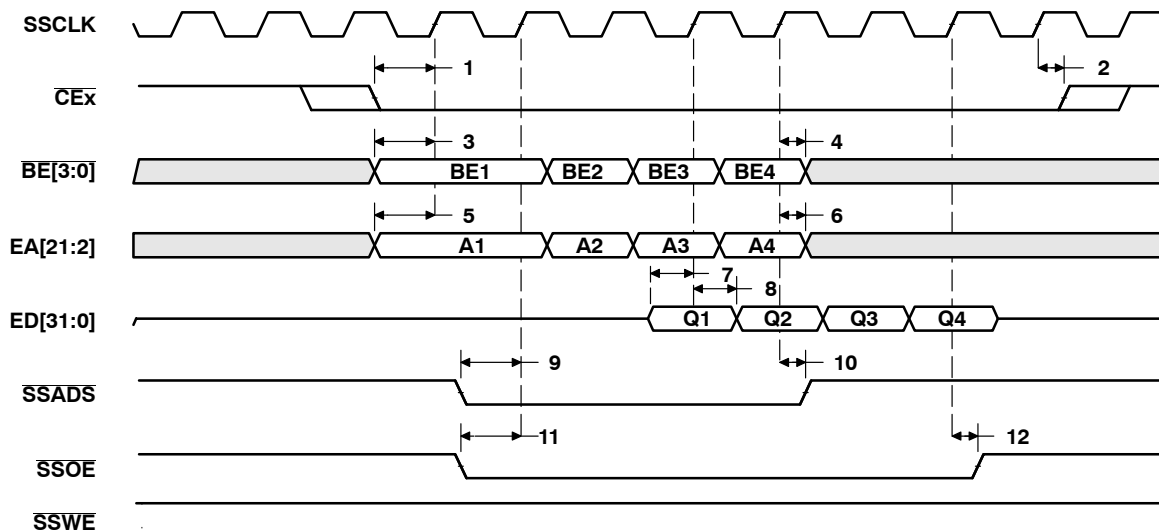
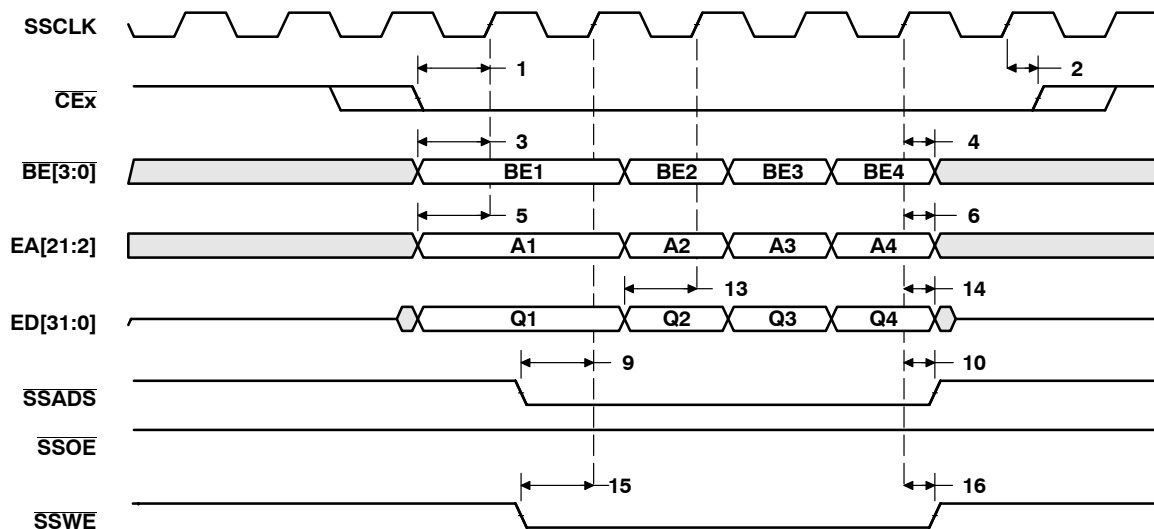

Figure 18. SBSRAM Read Timing (1/2 Rate SSCLK)
Figure 19. SBSRAM Write Timing (1/2 Rate SSCLK)
**timing requirements for synchronous-burst SRAM cycles (half-rate SSCLK) (see Figure 18)**
(see Figure 18 and Figure 19)**